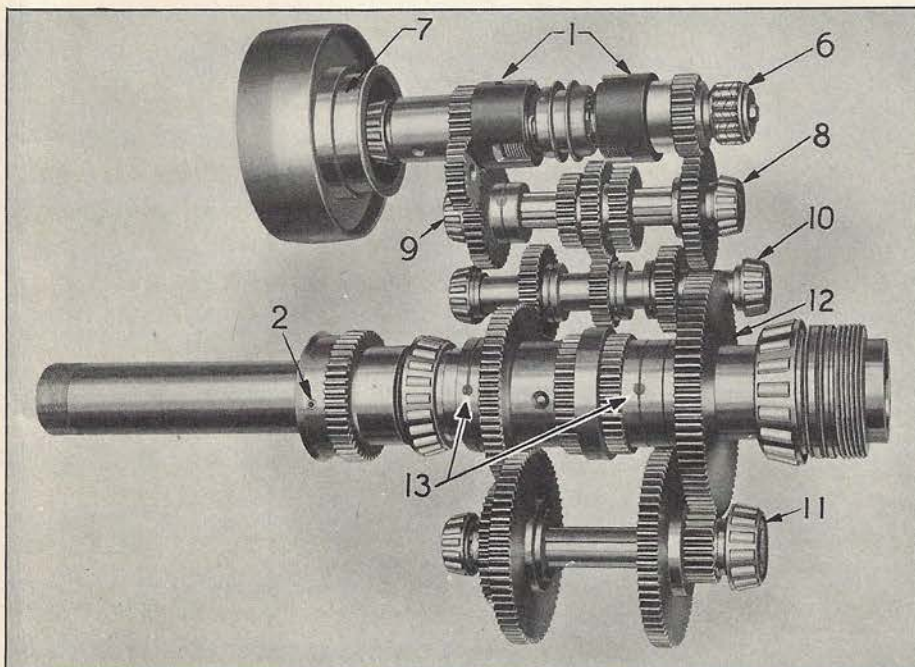

Fig. 16. Twelve Speed Head of No. 5 Turret Lathes
4. It is now necessary to move the gear shaft sideways. This requires sliding it through the inner Timken Bearing race (for instance 10 or 11, Fig. 16) and through the gears on the shaft.